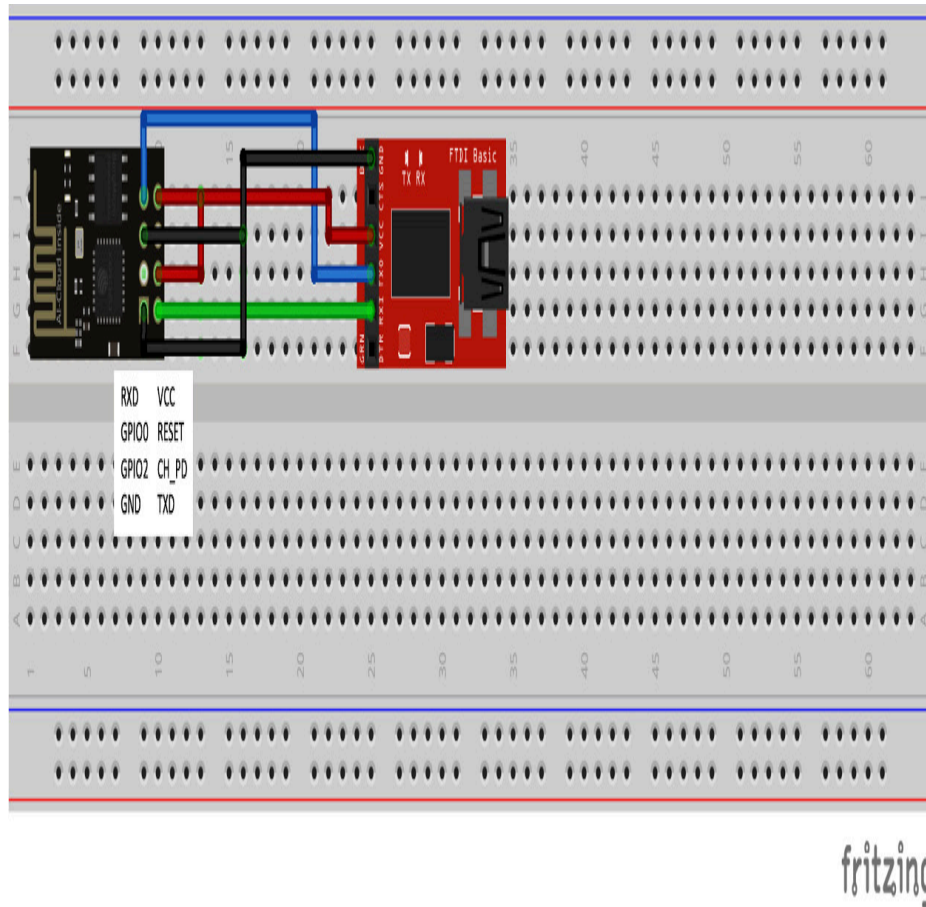

Figure 9.13 – An ESP8266 connected to the Blue Pill
*Figure 9.13* shows the connections between the SP-01 and the FTDI adapter: